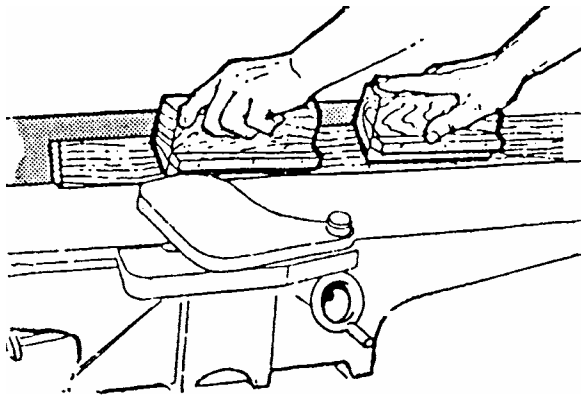

Figure 42
*For wood less than 3 inches wide* – use beveled push blocks and apply pressure toward the fence. Keep fingers near top of push block (Figure 42).